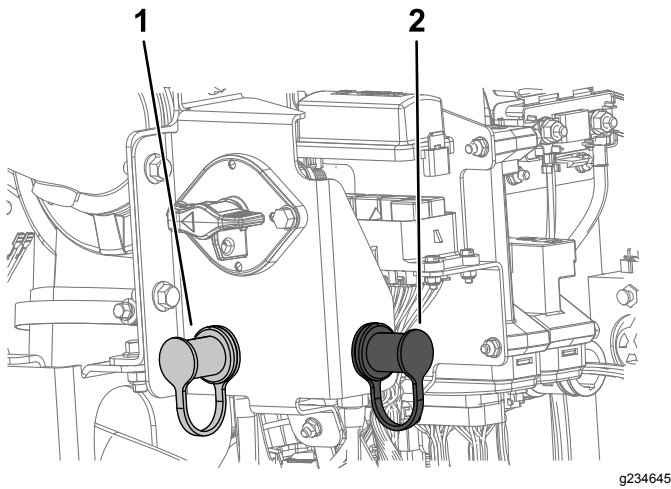

Figure 98
6. Remove the cover from the jump post (Figure 98).
7. Connect the positive (+) jumper cable to the jump post (Figure 98).
8. Connect the negative (-) jumper cable to a ground point, such as an unpainted bolt or chassis member (Figure 98).
10. When the engine starts, have the other person disconnect the negative (-) jumper cable from the frame and then disconnect the positive (+) jumper cable (Figure 98).